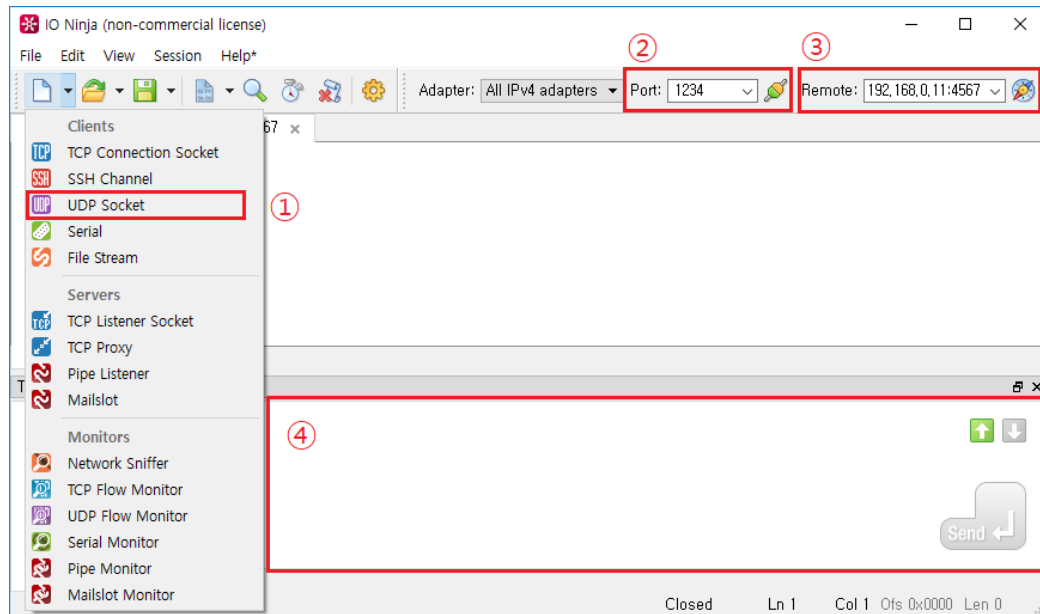

Figure 29: IO Ninja – UDP Socket Setting
- v Select **UDP Socket** (#1, Figure 29).
- a. Enter the port number to be used and click to open the socket (#2, Figure 29).
- b. Enter the IP address and port of the counterpart's UDP socket, click and get ready for data transmission (#3, Figure 29).
- c. Enter data and click **Send** to transmit (#4, Figure 29).